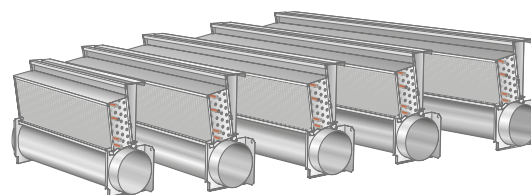

Figure 5. Range available on order.
(figure 5)
- PRIMO with front position distribution pipe (figure 5).